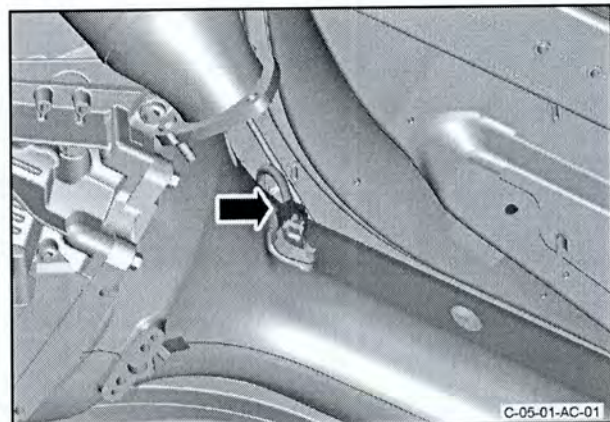

Figure 38
77. Connect the electrical connector to the speed sensor for the propeller shaft (refer to Figure 38).